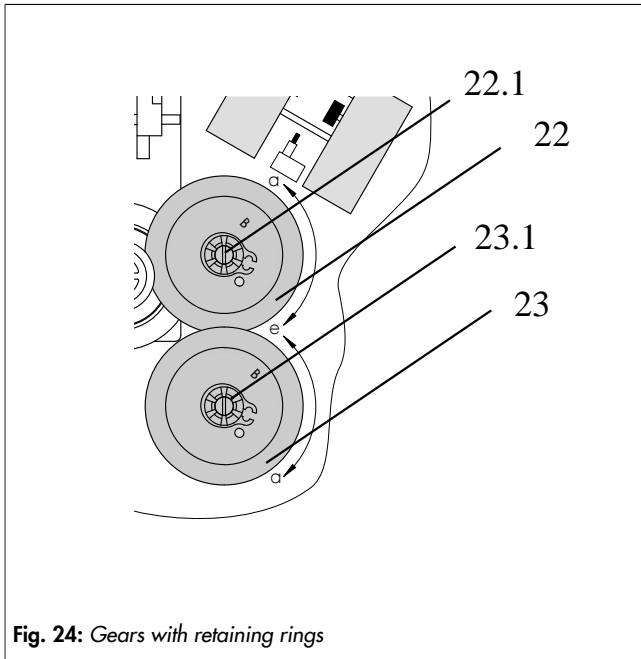

Fig. 24: Gears with retaining rings
4. Slide the intermediate gear (1) onto the spindle 1 (11.1).
5. Mount the serrated ring (3) and push it down as far as it will go.
6. Place the tension spring (4) onto the spindle 3 (11.3), ensuring that the long wire of the tension spring rests on the intermediate gear (1) and that the short wire of the spring is located between spindle 3 (11.3) and spindle 4 (11.4).
7. Slide the shim (10) onto the spindle 2 (11.2).
8. Mount the serrated ring (6) and push it down as far as it will go.
9. Put the resistance transmitter gears (22 and 23) fitted with retaining rings onto their shafts to correspond with the rated travel of the valve. The rated travel inscription 'A' for 30 mm rated travel or 'B' for 15 mm rated travel must be legible from above (see Fig. 24).
10. Slide the actuator board (12) into its guiding. Make sure that all the gears are properly engaged.